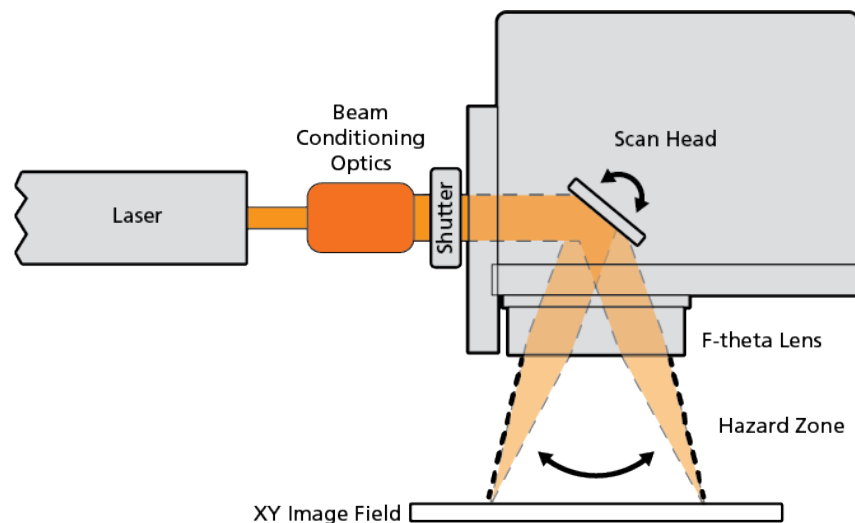

Figure 4: Location of Optical Beam Hazard Zones and Recommended Shutter Location
The beam shutter should be installed between the laser and the MOVIA scan head. Figure 4 shows the laser's internal and external optical path, the location of the hazard zones as the optical beam passes through the scan head, and the recommended location of the shutter.
- Cambridge Technology recommends that you fully enclose and interlock the zone of hazard to prevent possible beam deflections while the laser is energized. See Figure 4 for reference.